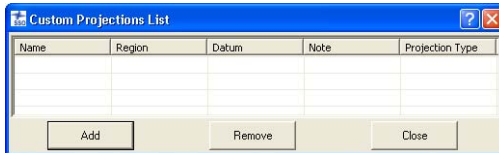

Figure 2-18. Custom Projections List
2. On the *Custom Projections List* (Figure 2-18 on page 2-14):